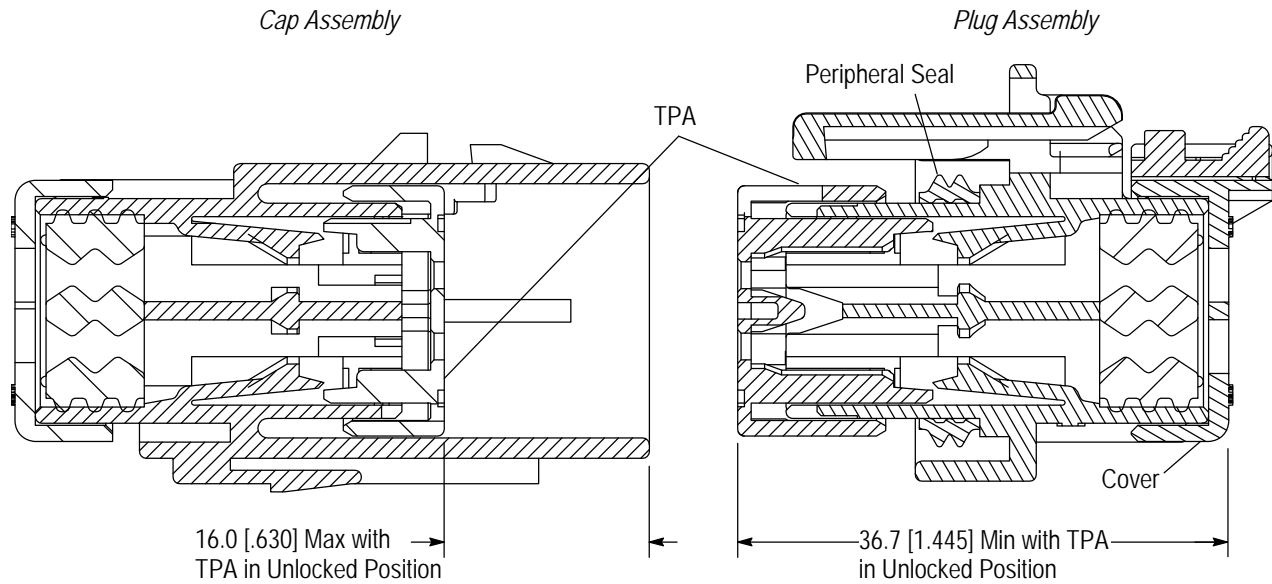

Figure 2
Crimped contacts (Refer to Application Specification 114-13045) shall be manually loaded into the housing assemblies. Socket contacts shall be loaded into plug assemblies, while the pin contacts shall be loaded into the cap assemblies. Refer to Figure 2 and insert the contacts into the housings assemblies with the information as follows:
1. Verify that the TPA is in the pre-staged position (un-locked). To verify the plug assembly TPA is in the correct position, check the distance from the cover to the mating face of the TPA as shown in Figure 2 (there will be clearance between the seal and the TPA as illustrated. The location of the TPA for the cap assembly should be as shown in Figure 2 when in the pre-staged position.